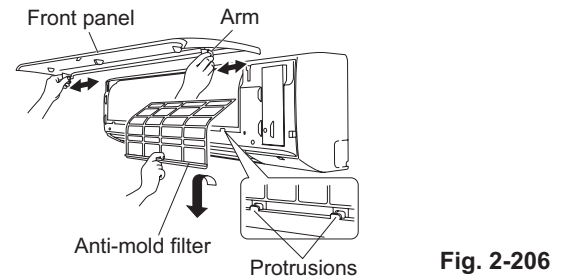

Fig. 2-206
- (1) Open the front panel until it is nearly horizontal, grasp the sections near the front panel arms on both sides, and then remove the panel by pushing the arms towards the outside while pulling the panel towards you.
- If the front panel is difficult to remove, grasp both ends of it and lift it up slightly. Move it to the left and disengage the left arm, then move it to the right and disengage the right arm. (Fig. 2-206)
- (2) Lift the anti-mold filter up slightly to disengage it from the protrusions on the unit, and then pull downward to remove the filter from the unit. (Fig. 2-206)